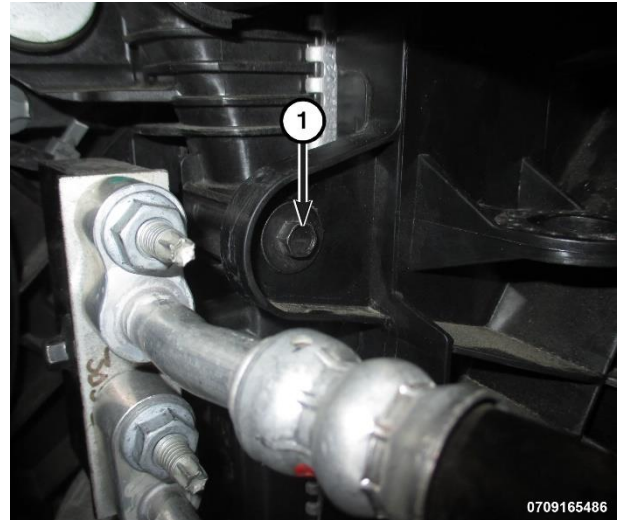

Figure 178 – Left Cooling Fan Bolt
- 8. Remove the left cooling fan bolt (1) (Figure 178).